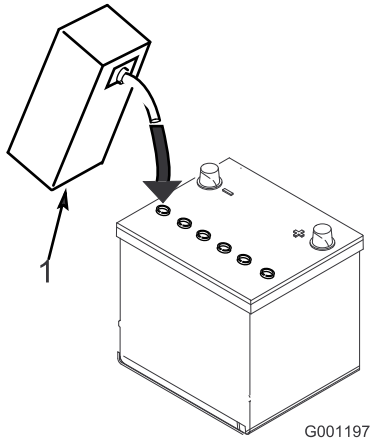

Figure 5
- Carefully fill each cell with electrolyte until the plates are covered with about 6 mm (1/4 inch) of fluid (Figure 5).
- Allow approximately 20 to 30 minutes for the electrolyte to soak into the plates. Fill as necessary to bring the electrolyte to within about 6 mm (1/4 inch) of the bottom of the fill well (Figure 5).